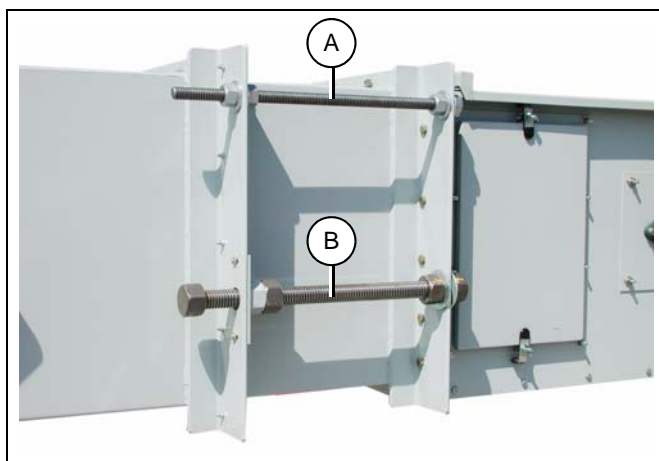
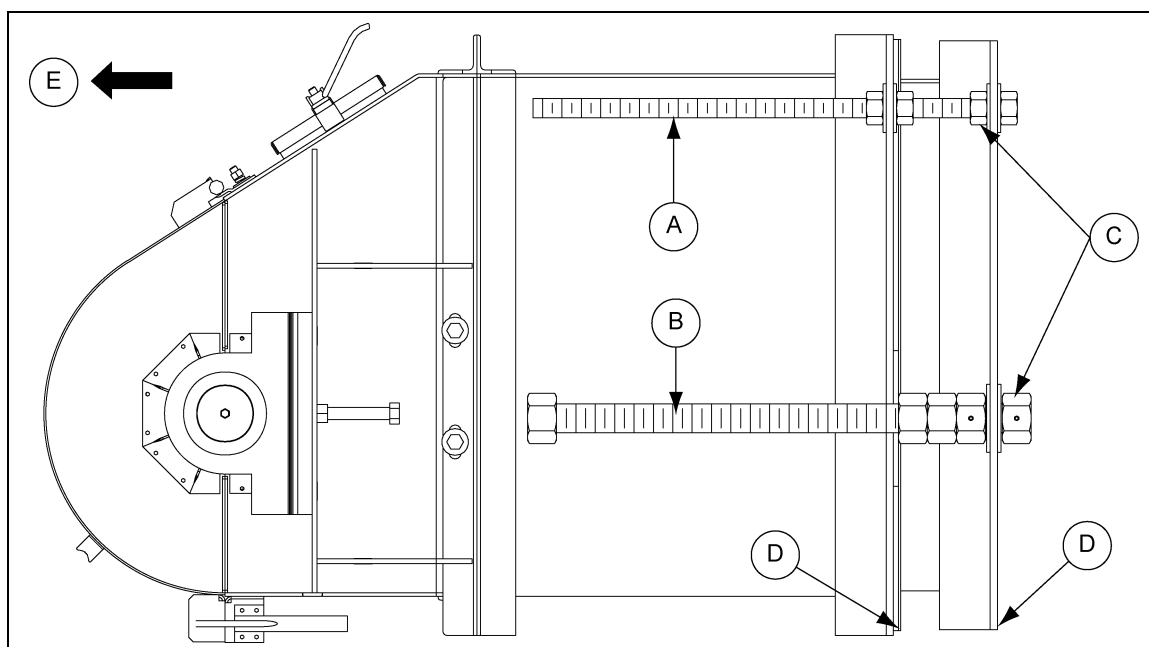

Figure 5A
Figure 5B Tail Section
1. Conveyor belts stretch when new and must be checked at regular intervals. After approximately two (2) weeks of usage, checks of belt tension may be done at less frequent intervals.
3. The belt is tightened by turning the take-up rods located on the tail section. Make sure that they are adjusted equally to prevent misalignment. The conveyor belt should be tightened enough to prevent the belt from slipping on the drive pulley. When done adjusting take-up rods, tighten nuts against flanges to lock in place. (See Figure 5A and Figure 5B.)